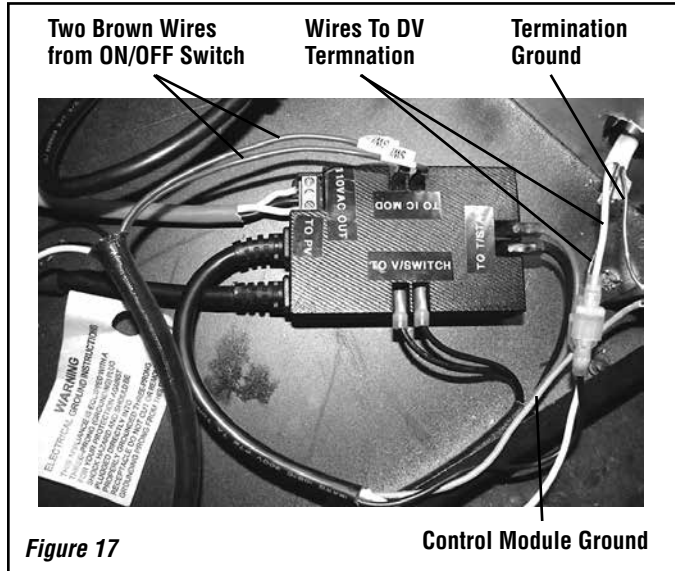

Figure 17
- 9A.5. Disconnect the two brown wires from the ON/OFF switch, and reconnect them to the control module [#4] (**Figure 17**).
9A.7. Connect one end of the **four-wire harness** [#2] to the **power vent control module** [#4] (**Figure 17**) — RED to T-STAT; BLACK to V-SWITCH.